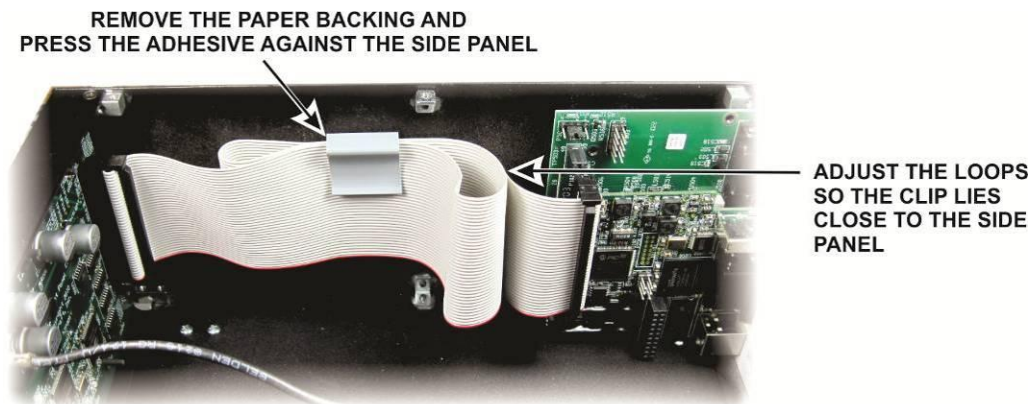

Figure 24. Clip Mounted on Side Panel.
- ❑ Slide the ribbon cable through the clip to adjust the folds so the clip lies near the side panel without being pulled away by the cable (see Figure 24).
- ❑ Remove the paper backing from the adhesive side of the clip and press it against the side panel as shown in Figure 24.